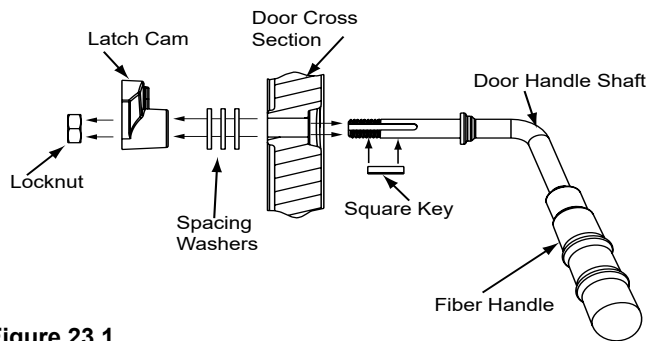

Figure 23.1
2. Install additional washer(s) as shown in **Figure 23.1**
6. Install fiber handle (**Figure 23.1**).